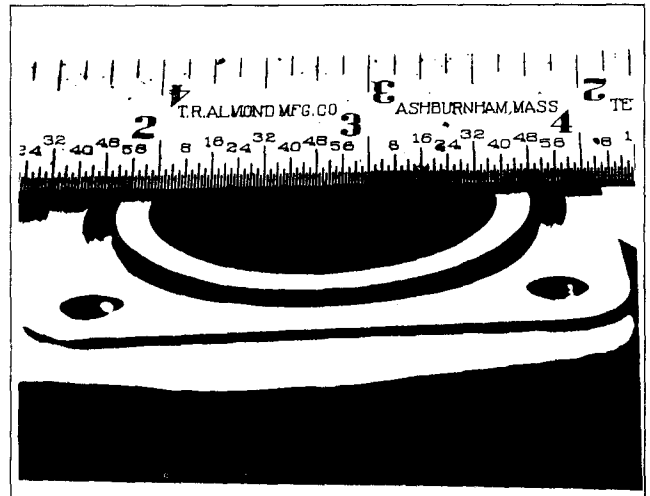

Figure 19. Pintle bearing spacer height with respect to pintle face.
- d. Set housing (27) on its side so the other pintle is up. Install bearing spacer (53) and rotate the yoke back and forth to
seat bearings (55) within the bearing races. With spacer (53) fully in against the bearing race, measure the height of the spacer with respect to the housing pintle face in two places (180° apart). Use a depth micrometer to perform this measurement. See Figure 19. Average the readings to obtain a nominal value. A 0.007-0.009 inch preload is required on the pintle bearings. Calculate the necessary shims to provide this preload as follows: Assume the depth readings were 0.029 and 0.027 inch. Add the two figures together and divide by 2 to obtain the average. In this case the calculated average is 0.028 inch. Subtract the nominal preload of 0.008 inch from the calculated average to obtain the required shim thickness.